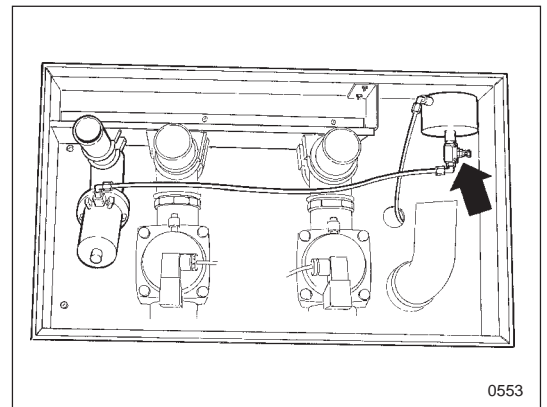

Figure 3.
7. Check the steam valve oil container for leakage and proper setting. The adjustment screw on the oil container, figure 3, should be set to allow the steam valve to open in 5 to 10 seconds.